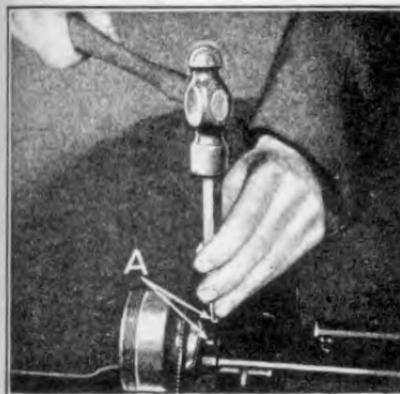

Fig. 390
- 754 Drive out the two internal gear case pins (See "A" Fig. 390).